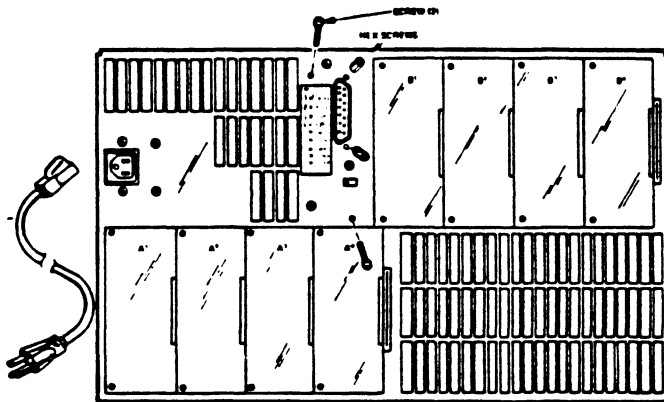

FIGURE 5-29 BOX SLU ASSEMBLY REMOVAL
7. Remove the two assembly mounting screws from the rear of the box. See Figure 5-29.